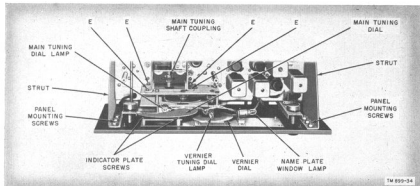

Figure 33. Top view of tuning assembly.
- (4) The nameplate window lamp and the vernier tuning dial lamp brackets are spring-mounted; remove them and allow them to hang free from their wiring (fig. 33).
- (6) Remove the three nuts and lockwashers at the top of each strut that supports the front panel (fig. 33). This leaves the panel supported only by the single studs at the bottom of each strut. Position the receiver with no pressure on the panel; and, while the receiver is supported, remove the two bottom nuts and lockwashers. The panel is now free and can
- (8) Loosen the setscrews in the vernier dial and main tuning dial bushings and remove the dial disks from their shafts (figs. 33 and 34).
- (9) Turn the coupling between the main tuning dial shaft and the ganged capacitors until a setscrew is exposed, and loosen the coupling with the setscrew wrench (fig. 33).
- (10) Remove the four screws (E) (fig. 33) that hold the gear assembly to the main ganged capacitor channel supports.
- (11) Turn the chassis on its side and remove the four nuts and lockwashers from the four stay-bolt studs protruding through the chassis floor. These studs are attached to the rear gear assembly support plate.
- (12) The gear assembly is now loose and may be removed. The replacement unit is to be installed in the same position.